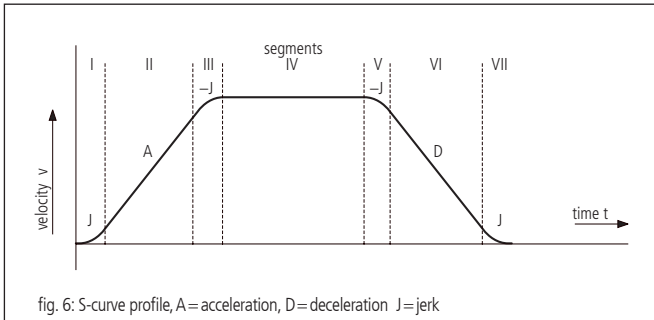

fig. 6: S-curve profile, A=acceleration, D=deceleration J=jerk
Fig. 6 shows a typical S-curve profile. In segment I, the acceleration value increases by the value set by the jerk, until the maximum acceleration is reached. The axis continues accelerating linearly (jerk = 0) within segment II. The profile uses then the negative value of the jerk in segment III in order to reduce acceleration. In segment IV the axis moves with maximum (programmed) speed (V). Then, the profile slows down similarly to the acceleration value, by using the negative jerk in opposite direction, in order to first reach the maximum acceleration (A) and then to halt the axis at the end position.